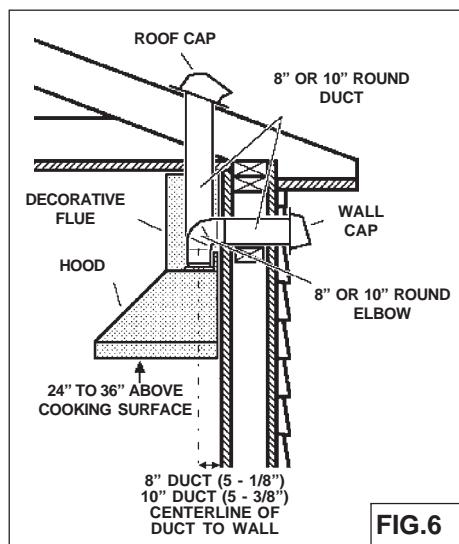

FIG. 6
4. Install a roof or wall cap. Connect 8" WPPIQ (or 10" WPP9IQT) round metal ductwork to cap and work back towards hood location. Use duct tape to seal the joints between ductwork sections (Fig.6).